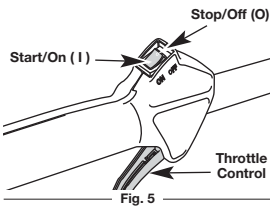

Fig. 5
NOTE: There is no need to turn the unit on. The On/Off Stop Control is in the ON (I) position at all times (Fig. 5).
2. Press and hold On/Off Stop Control in the OFF (O) position until engine comes to a complete stop (Fig. 5).